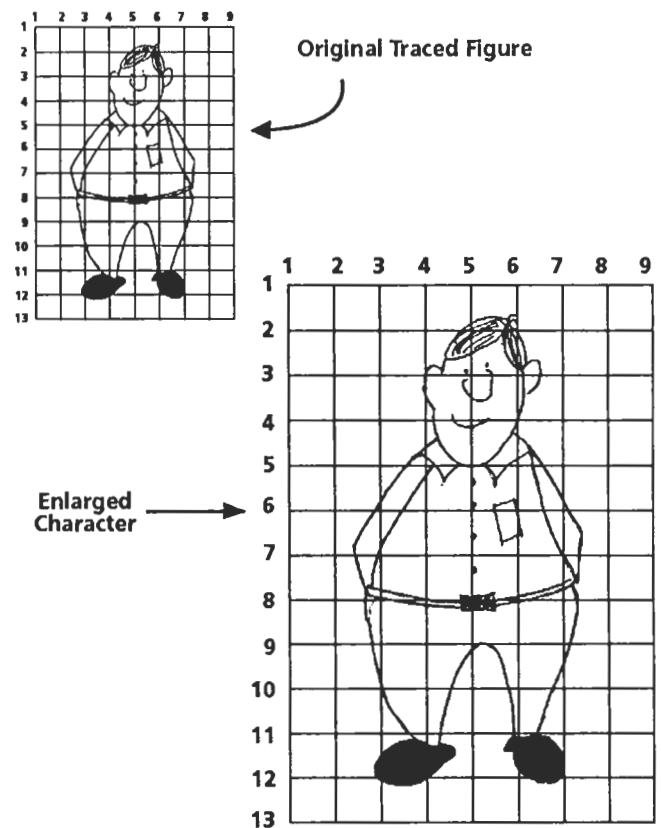

Figure 1 - Grid Drawing
6. Number the grids on your 1/4" graph paper and on your larger graph. (See Figure 1.)